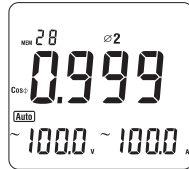

Figure 21
- Then press **SELECT** again to choose the second phase $\phi 2$, see figure 21.